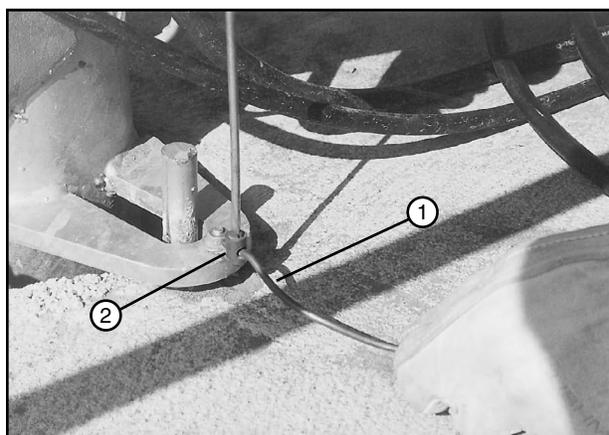

Figure 52-2 1. Ground Wire
24. Attach the ground wire to the ground lug on the riser. See Figure 52-2.